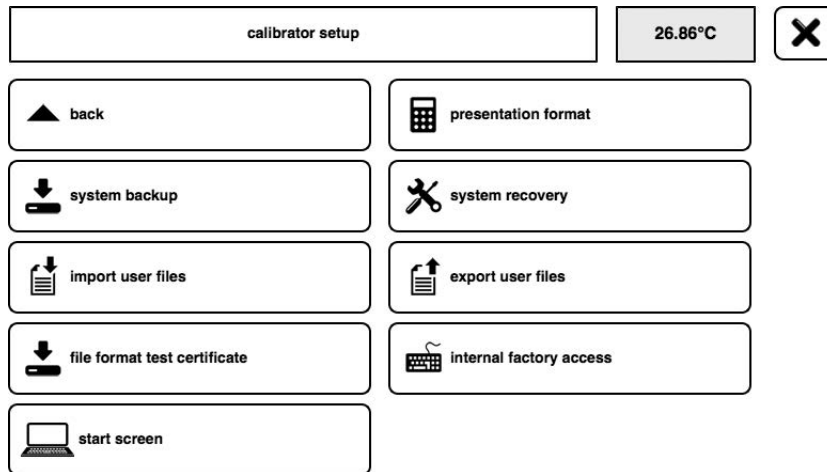

Figure 29: Calibrator Setup Window (Page 2 of 2)
1. In the “Calibrator Setup” window, see Figure 29, tap the “Presentation Format”  icon.